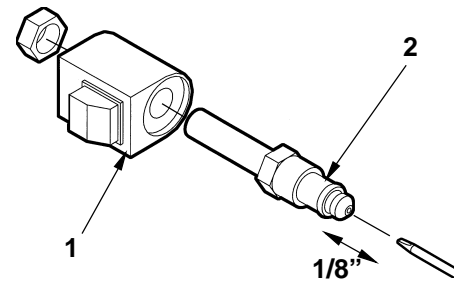

FIG. 2
2. Check the Valve Stem by removing the Coil Assembly (**Item 1, FIG. 2**). With platform on ground, unscrew the Valve Stem, (**Item 2, FIG. 2**) from the Pump. Push on the plunger that is located inside the Valve Stem by inserting a small screwdriver blade in the end. If the Plunger does not move freely (approximately 1/8") replace the Valve Stem. **When re-installing valve stem, torque hex nut to 30 in-lbs.**